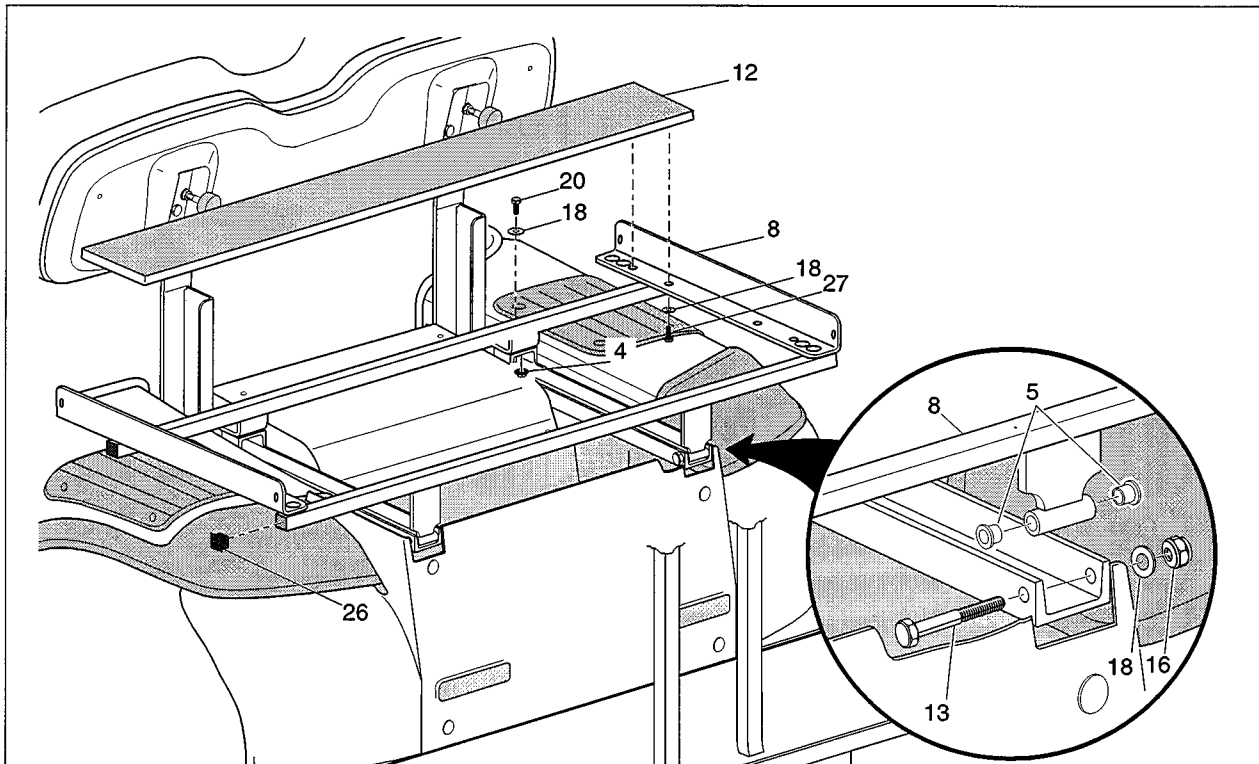

Fig. 3
C. INSTALLING SUPPORT FRAME (Refer to Fig. 3)
1. Insert the nylon bushings (item 5) into the pivot brackets in the support frame (item 8) (4 places).
3. Insert the bolt (item 13) through the pivot from the center of vehicle (2 places) and secure with washer (item 18) and nut (item 34).
4. Secure front of support frame to seat back support using bolt (item 20), washer (item 18) and nut (item 4).
5. Insert end plug (item 26) in each end of both support frame cross tubes.
D. INSTALLING FIXED BED (Refer to Fig. 3)
1. Attach fixed bed (item 12) to support frame (item 8) using bolt (item 27) and washer (item 18). (Two places on each end of front bed. Tighten to 5 - 7 ft. lbs. torque.
E. INSTALLING HANDRAIL (Refer to Fig. 3)
1. Insert end plug (item 24) in each end of handrail (item 9).
2. Attach handrail at forward end of support frame (item 8) using bolt (item 30), lock washer (item 19) and acorn nut (item 17). Do not tighten hardware at this time.
F. INSTALLING LOAD BED AND SEAT BOTTOM (Refer to Fig. 3)
1. Position load bed (item 10) in support frame as shown.
2. Position seat bottom (item 29) in support frame as shown.
3. Insert teflon washer (item 14) between support frame and load bed and again between load bed and seat bottom as shown.
4. Secure all components by inserting bolt (item 7) through handrail, support frame, washer, bed assembly, washer and seat bottom and secure with lock nut (item 16). Tighten all handrail hardware to 12 - 14 ft. lbs. torque.
H. INSTALLING SEAT BACK (Refer to Fig. 3)
1. Attach seat back (item 28) to seat back support (item 6) using bolt (item 1), lock washer (item 2) and washer (item 3). Tighten to 5 - 7 ft. lbs. torque.
2. Secure seat back to handrail using bolt (item 21) and acorn nut (item 22). Tighten to 5 - 7 ft. lbs torque.
3. Insert end plug (item 15) in each end of seat back support tube.